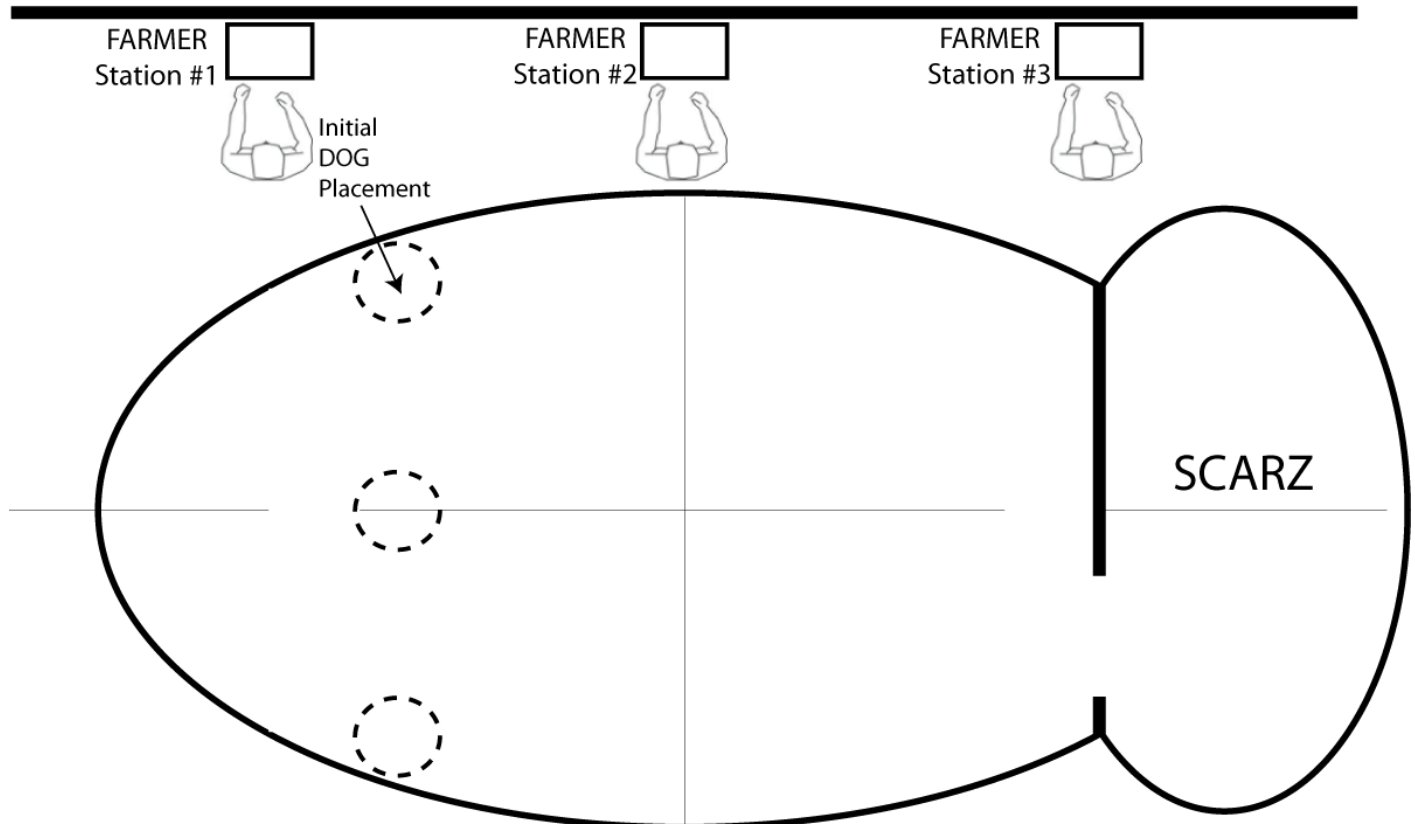

Figure 1: The Wetland
- The Wetland is comprised of a region at the West end of the building 550 Atrium, measuring approximately 16 ft. by 24 ft (see Figure 1).
- At the beginning of each game the participating DOGs will be placed in one of the four corners of the Wetland as shown in Figure 1.